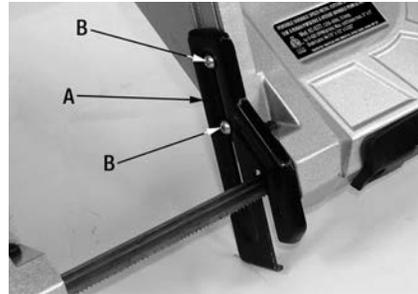

FIGURE 3
1. For proper operation, install the blade guard support plate (A) Fig.3. in the lowest position as shown. Remove the round head allen screws, washers and spring washers (B) from the tool using the supplied hex. key. Position and install the blade guard support plate (A) around the blade as shown using the removed round head allen screws, washers and spring washers (B). After operation, retract support plate to fit tool in carrying case.
4. Position the blade guard support plate (A) Fig.3 up against your workpiece, but do not rest blade on workpiece.